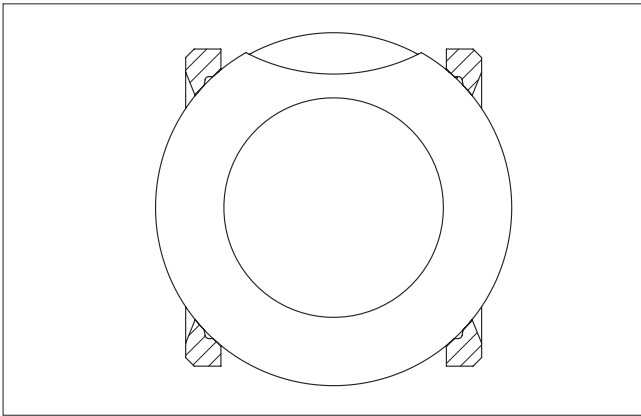
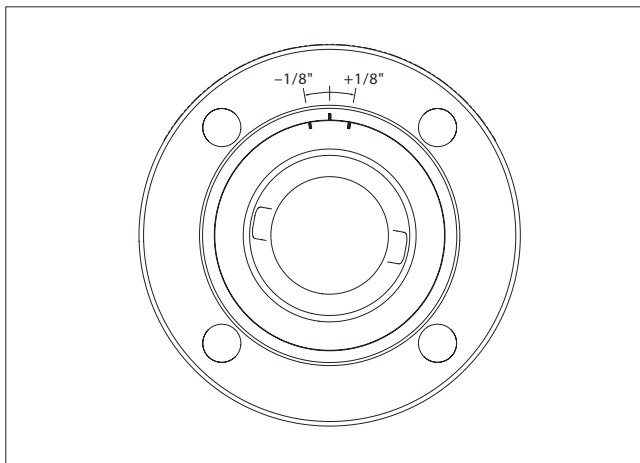
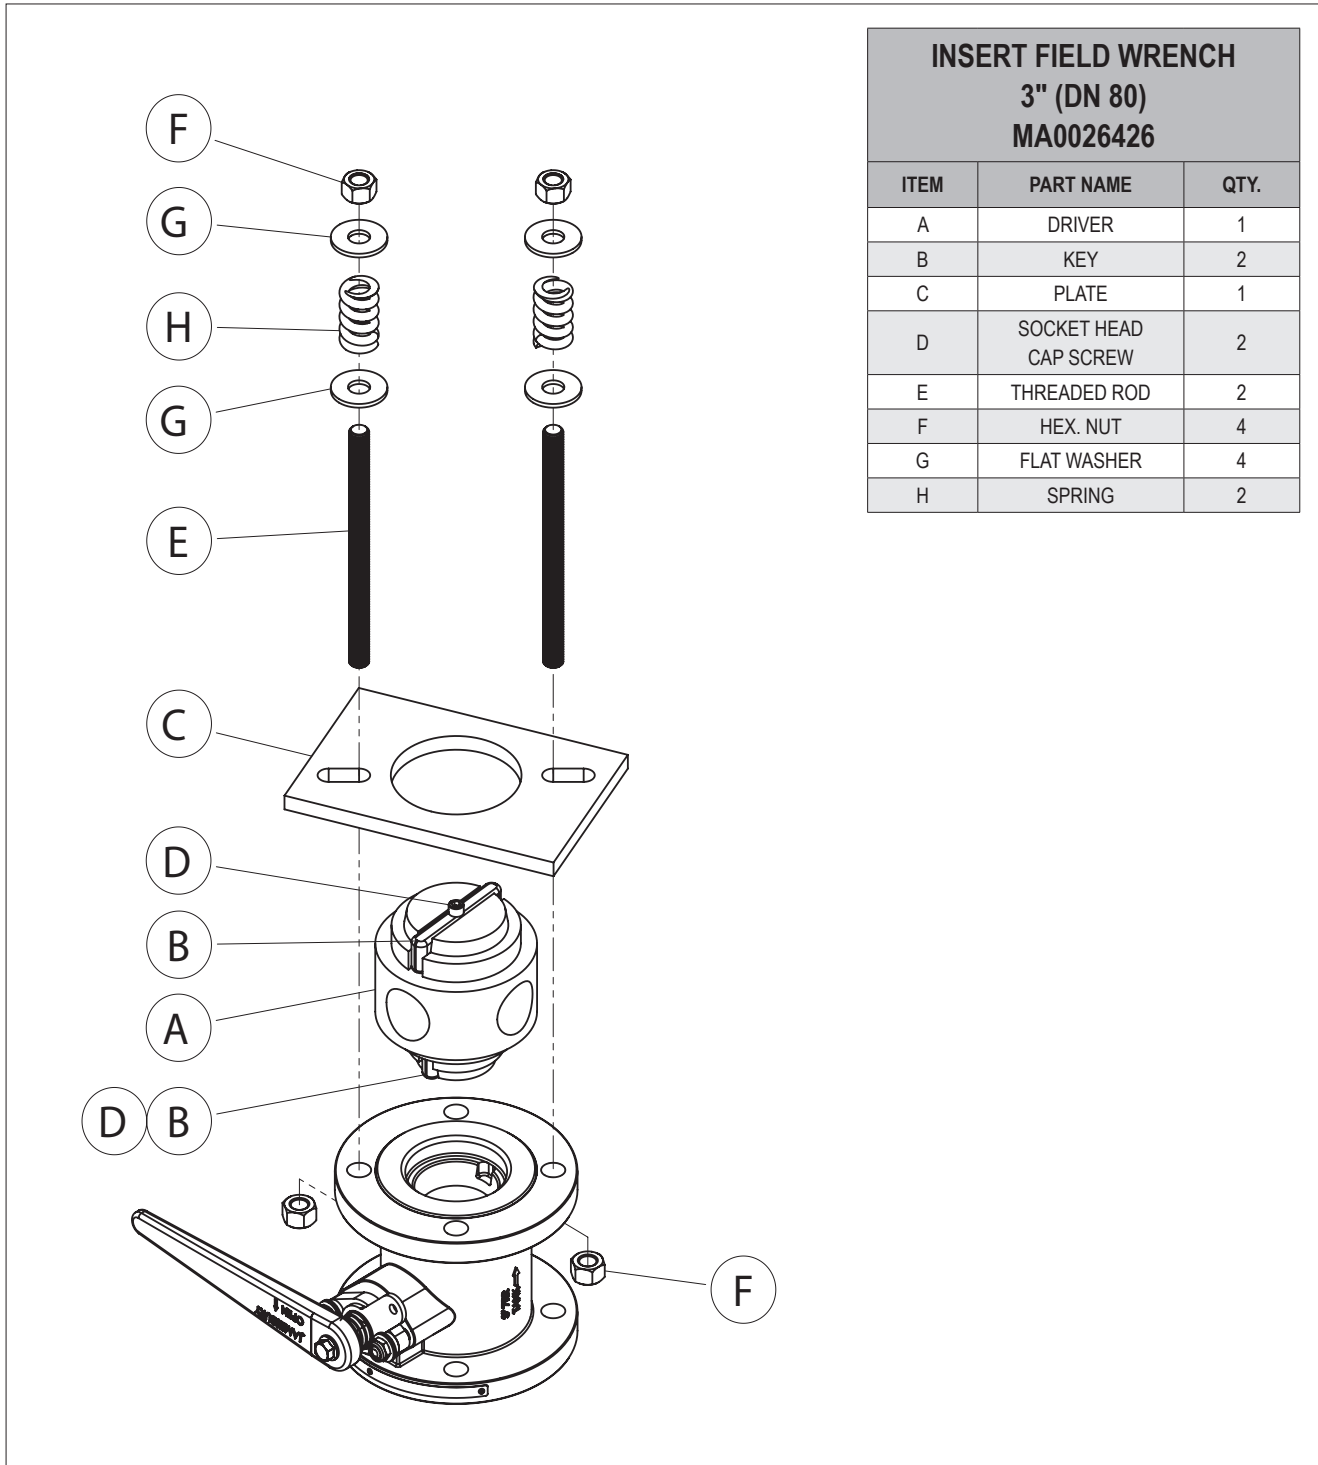

Figure 3. Seats should be in this position at Assembly.
Figure 7.
Figure 8.
3. Remove the handle screw (35), and handle (31).
4. Remove retaining ring (34), spring (33), and indicator stop (32).
5. Remove stud nuts (18), disc springs (17), stop bushings (39), and compression plate (10).
7. Clamp the valve body (1) securely in a vise in the vertical position with the insert end up, taking care not to damage any valve sealing surfaces.
8. Unscrew and remove insert (2). The insert design requires that the insert be unscrewed in a counterclockwise motion. An insert field wrench is available for purchase to remove the valve insert and shown in **Figure 8**, which may be ordered as MA0026426 from your local Valmet Distributor.
9. If using the insert field wrench, assemble the insert field wrench as follows (refer to **Figure 8**):
- a. Place driver (A) into the insert slots.
- b. Put the plate (C) on top of the driver (A).
- c. Place the studs (E) through the plate (C) and flange holes. Thread the nuts (F) onto the stud below the flange.
- d. On the top side of the plate (C) put a flat washer (G), die spring (H), flat washer (G) and nut (F). Tighten to slightly compress the springs.
10. Place a pipe or rod through the driver (A) and loosen the insert by turning counterclockwise.
12. Remove and discard the old body seal (65). **BE CAREFUL NOT TO DAMAGE THE SEALING SURFACES.**
13. With the ball in the closed position, remove ball (3) and seats (7). **NOTE:** A piece of wood or other soft material may be used to unseat the parts from the opposite side by gently tapping the ball from the end opposite the insert. **BE CAREFUL NOT TO DAMAGE THE BALL OR SEATING SURFACES IN THE BODY.**
14. Press the stem (5) into the body (1) and remove it through the insert side of the valve. It may be necessary to tap it with a piece of wood or some other soft material. **BE CAREFUL NOT TO DAMAGE THE STEM OR BODY SEALING SURFACES.**
15. Carefully remove and discard the packing V-Ring set (69) and stem bearings (70) and secondary stem seal (71). **BE CAREFUL NOT TO DAMAGE THE SEALING SURFACES.**
3. Clamp the valve body (1) securely in a vise in the vertical position with the insert end up, taking care not to damage any valve sealing surfaces.
4. Place one valve seat (7) sidewise into the body cavity (1) to just below the stem hole and tilt it into place so that the proper face will come in contact with the ball (3) (see **Figure 3**).
13. Align the stem (5) to the ball slot. Insert the ball (3) rotating it onto the stem (4) in the closed position. If necessary turn the stem blade to align with the ball slot.
14. Insert the second seat (7) with the seat sealing surface towards the ball. (See **Figure 3**).
15. Insert the body seal (65) onto the insert (2).
16. Make sure there is no dirt and grit in the insert (2) threads. Using a thread lubricant compatible with the media, screw the insert (2) into the body (1) and tighten the insert. The insert field wrench (shown in **Figure 8**) maybe used. If the field wrench is used to thread the insert into the body, follow insert field wrench assembly instructions found in **DISASSEMBLY** Step 9 of this IMO. The insert must be tightened the same number of turns as in step 12, insuring that the marks are either lined up or insert mark is $\pm 1/8$ " either side of the body mark, as shown in **Figure 7**.